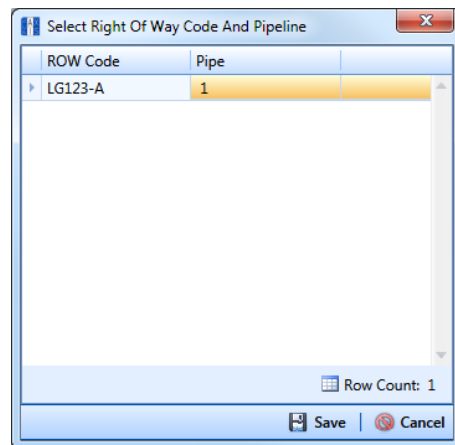

Figure 3-46. Select Right Of Way Code And Pipeline
- 4 Click  **Add** and then select the pipeline you want to work with in the dialog box that opens (Figure 3-46).